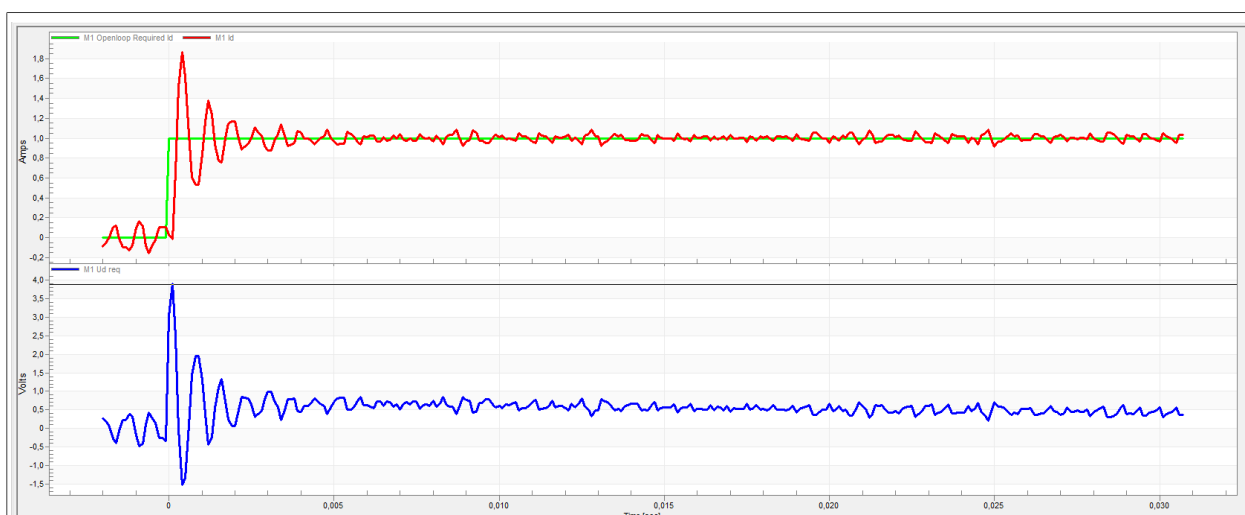

Figure 26. Fast step response of the Id current controller
- The loop bandwidth is high (700 Hz) and the response time of the Id current is very fast, but with oscillations and overshoot (Figure 26).